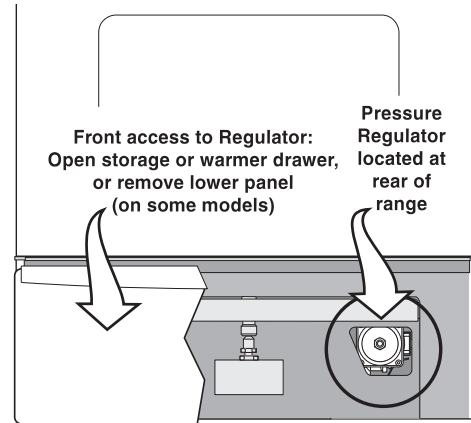

Figure 2
- Pull the drawer away from the range (See Figure 2).